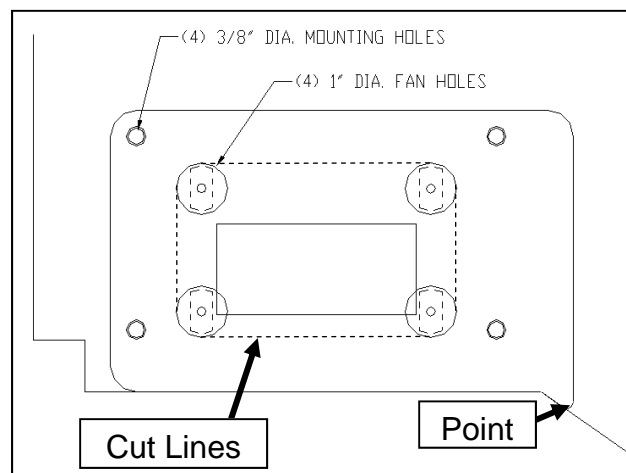

FIGURE 1.4
4. Mark off the four (4) fan holes and the four mounting holes on the under side of the dash, per Figure 1.4.
5. Drill the eight (8) holes with a 1/8" drill then using a 3/8" drill open up the four mounting holes.
7. Scribe a line on the outside edges of these four holes to make a rectangle, per Figure 1.4.